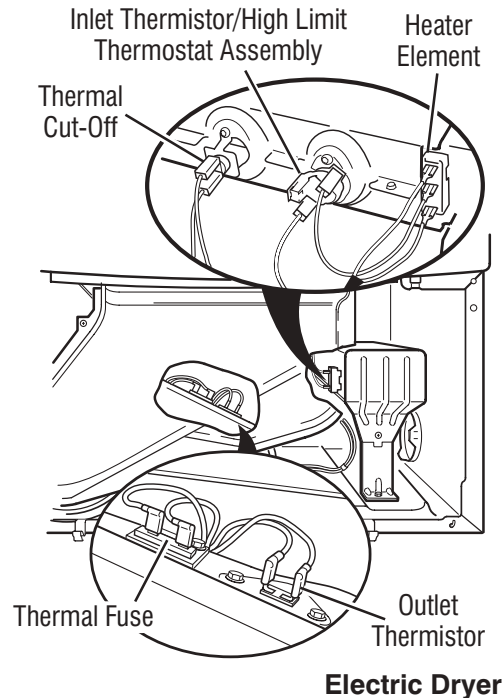

Figure 20a - Thermal components, electric dryer, viewed from front.
Locate the components using figures 20a and 20b. To access heater system components, see Dryer Disassembly Instructions, page 23.
5. Locate the high limit thermostat (see figures 20a & 20b, page 14). Measure the continuity through it by connecting the meter probes to the red and black wire terminals.
**NOTE:** On the electric dryer, the inlet thermistor is part of the high thermostat assembly (see figures 20a & 20b). On the gas dryer, the inlet thermistor is located below the CCU bracket at the drum inlet duct (see figure 28, page 27).